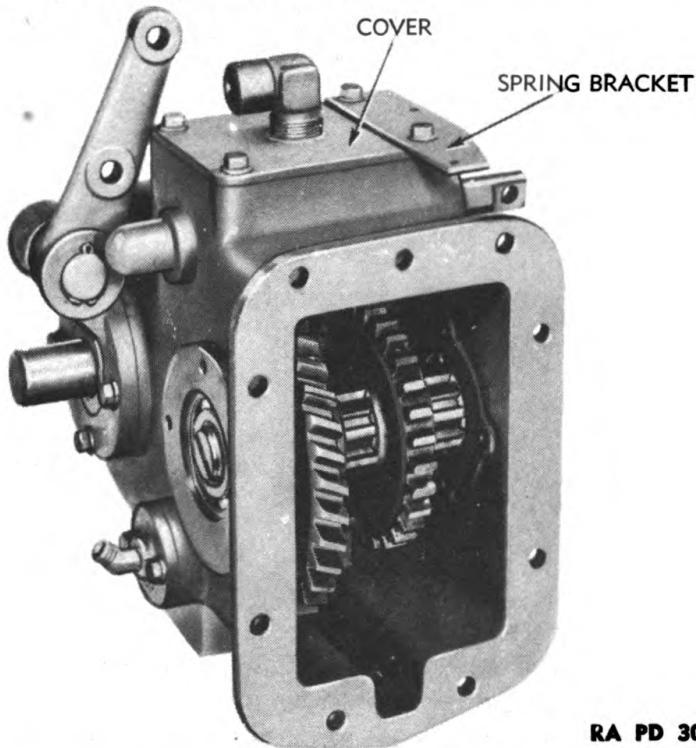

Figure 132 — Power Take-off Assembly
a. Remove Shifter Shaft Assembly. Remove two cap screws and lift steering lever return spring bracket from top cover (fig. 132). Remove the two cap screws remaining in cover and lift off top cover. Remove shifter shaft spring and plunger from hole in case. Bend lock away from cap screw head and loosen clamp screw in shifter fork (fig. 133). Drive shaft back through case and out of shifter fork. Cover over rear of shaft will be pushed out of case as shaft is removed. Lift spacer and shifter fork from shaft as they are freed. Drive oil seal (fig. 134) out of case.
e. Install Top Cover. Drop shifter shaft plunger and spring into hole in top of case. Using new gasket, install top cover and steering brake return spring bracket on case with four cap screws with lock washers as shown in figure 132.